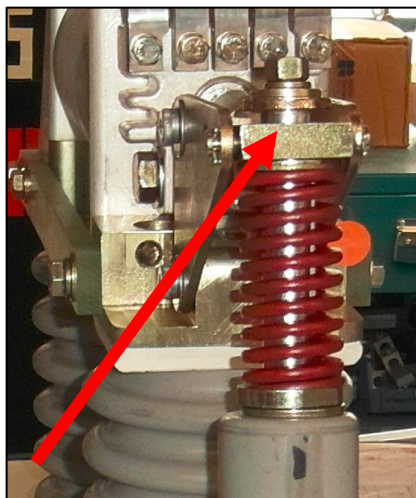

Figure 14 - Lubrication on pull-rod pin
6. Check the plastic tube (passing thru pushbuttons) is not deformed (see Figure 14)